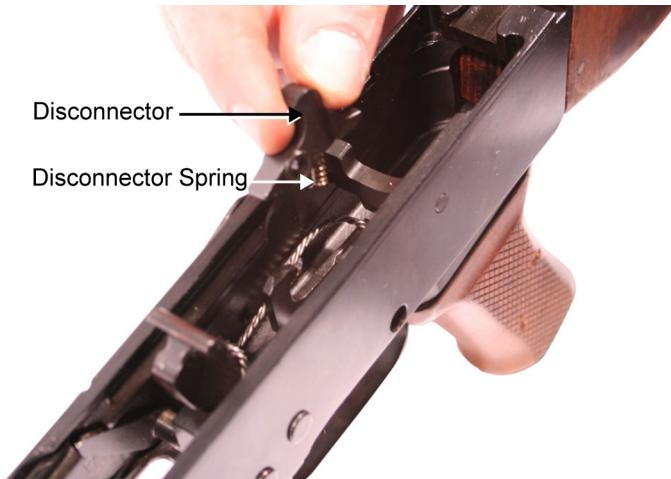

Figure 68. Installing the Disconnector and Disconnector Spring.
i. Install the disconnector into the trigger. Ensure that the hole in the disconnector aligns with the holes in the trigger. Refer to Figure 68.